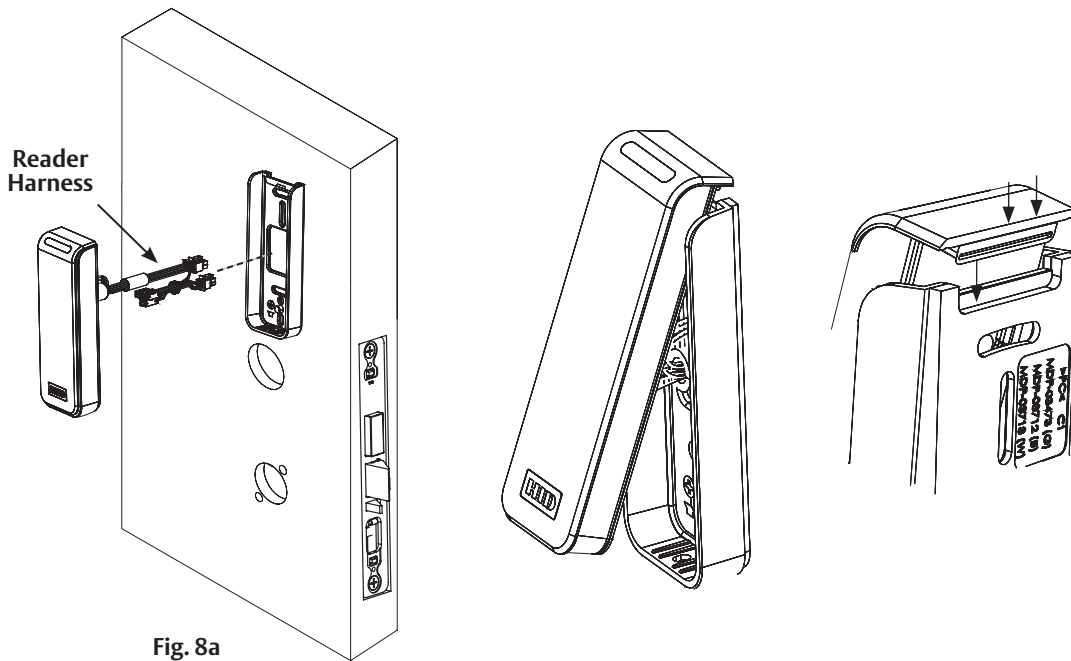

Fig. 8a
1. Feed reader harness through door (Fig. 8a, c)